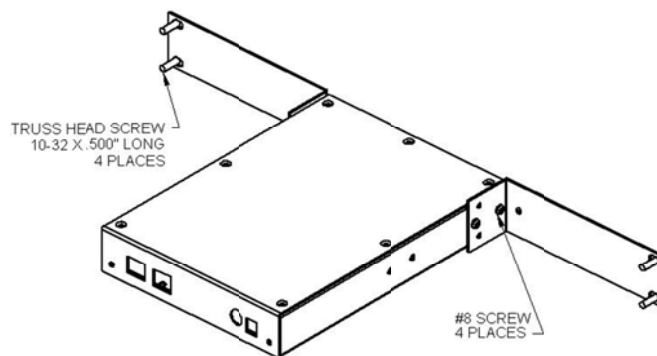

Figure 2. Rack Mount
**Rack:** Following the assembly drawing below, attach the two mounting brackets to the VIP-814A unit. Using rack screws, mount the VIP-814A in an available 1U rack slot. See Figure 2.